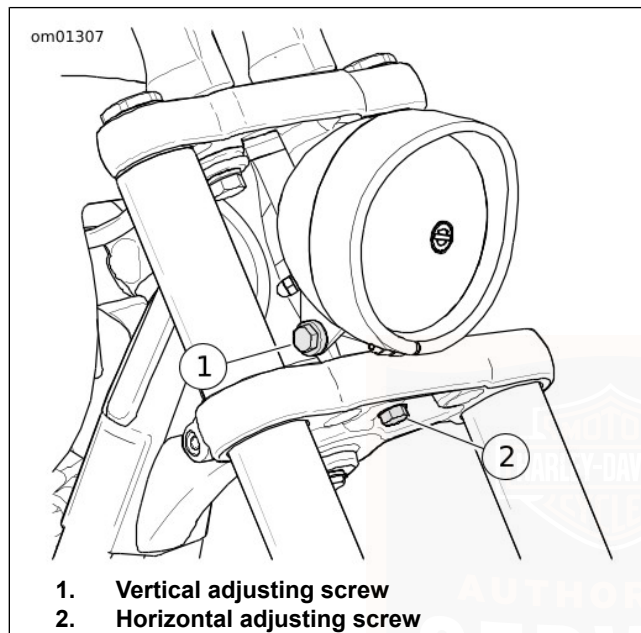

Figure 72. Headlamp Adjustment
2. See Figure 72. Adjust headlamp horizontal alignment.
- a. Loosen horizontal adjustment screw (2). Adjust headlamp horizontally to direct light beam straight ahead.